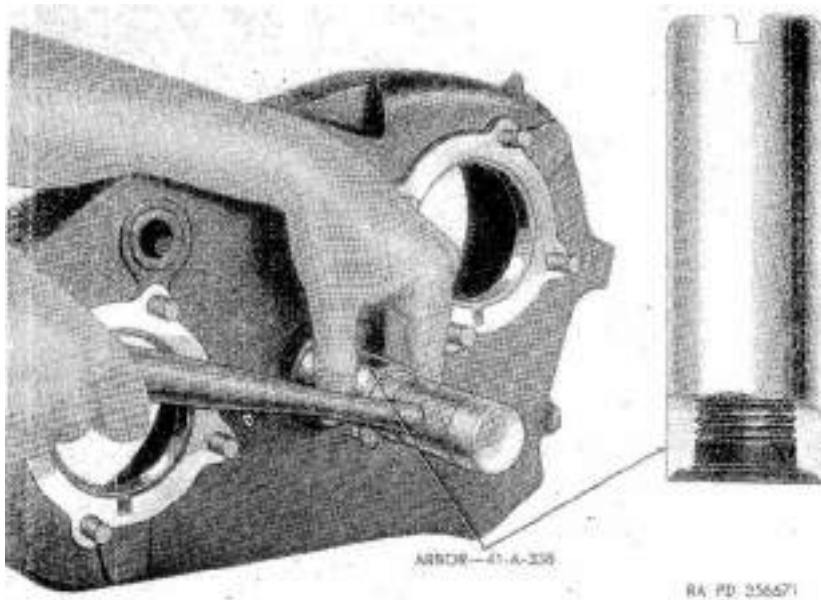

Figure 134. Removing idler gear shaft from transfer case.
- (1) Remove $\frac{1}{8}$ x 1% cotter pin (TT), $\frac{7}{8}$ -16NC slotted nut (VV), and 29/32 ID, 13/4 OD, plain washer (UU) from idler gear shaft (BH).
- (2) Remove 5/16-18NC x % screws (BB), 5/16-inch lock washers (CC), idler gear shaft cover (DD), and idler gear shaft cover gasket (EE).
- (3) Screw arbor-41-A-338 (*fig. 134*) on threaded end of idler gear shaft. Make certain arbor is firmly seated against shaft shoulder. Drive idler gear shaft from case with a plastic hammer. Remove idler gear and bearings from case.
- (4) Remove idler gear bearing cones (BG and RR), bearing shims (JJ, KK, LL, and MM), and idler gear bearing spacer (NN) from idler gear (PP).
- (5) Drive idler gear bearing cups (HH and QQ) from idler gear with a bronze drift and hammer.